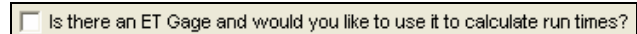

Figure 16.4.3C
2. If this controller is going to be connected to an ET gage check the **Is there an ET Gage and would you like to use it to calculate run times?** box (Figure 16.4.3C).